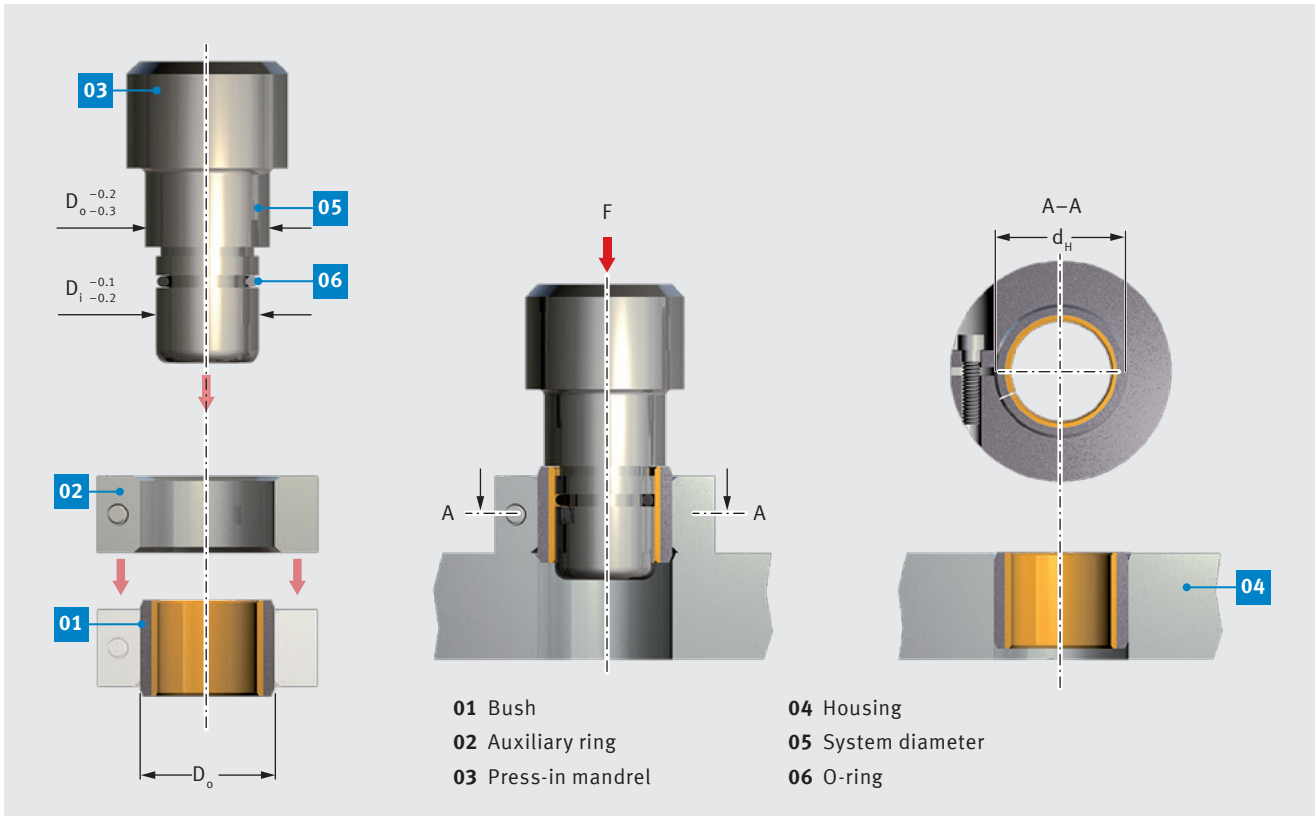

Fig. 53: Press-fitting bushes, $D_o \geq 55$ mm, with auxiliary ring
- Press-fitting with mandrel and auxiliary ring, as per Fig. 53.
Fig. 53 shows calibration using a mandrel. Tab. 36 contains standard values for the diameter of the calibrating mandrel d_k . Precise values can only be ascertained through tests.